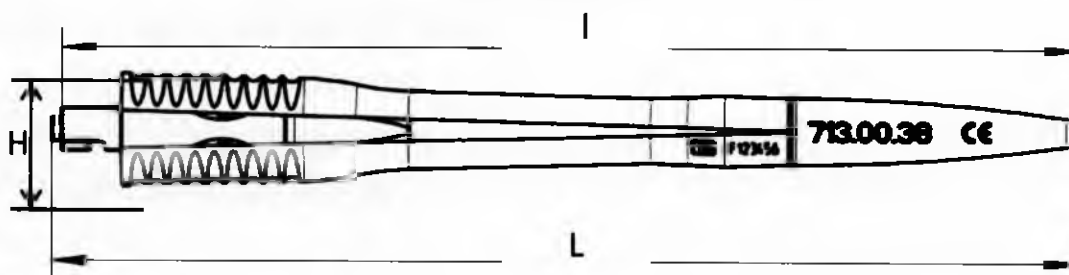

Figure 1: Dimensions of RENAISSANCE Advanced Handle
Figure 1 is schematic only, representing the mechanism in a non-activated state (l) and the activation pin in an activated state (L).